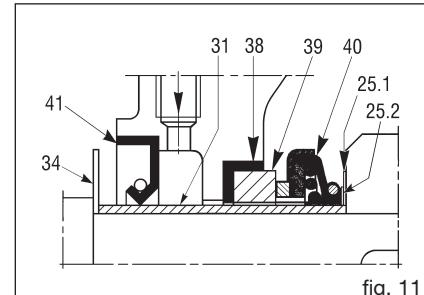

fig. 11
- In all models, the distance between the top of the impeller blades and the surface of the wear plate must be between 0.3 - 0.6 mm (fig. 19). For the 12" model, the distance between the impeller and the front and rear wear plates must be between 0.6 - 1 mm (fig. 22). To achieve this, dimensions A and B in figs. 17, 18, 20, 21 must be as nearly as possible equal. To this end, use the shims (25.2) (fig. 11) supplied with spare mechanical seals. These shims are used to move the impeller further forward if it is too far from the front wear plate or too near the rear wear plate. The shims should be mounted between the seal support ring (25.1) (fig. 11) and the impeller. Further adjustments can be carried out using casing gaskets (and rear wear plate gaskets on models which fit these). The presence of the casing gasket (43) (fig. 10) 0.5 mm thick then creates the correct distance (fig. 19).